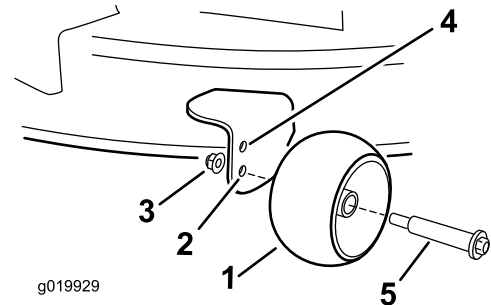

Figure 23
- Upper hole—use this position with the mower deck in the 63 mm (2-1/2 inch) and below the height-of-cut positions (Figure 23).
- Lower hole—use this position with the mower deck in the 76 mm (3 inch) and above the height-of-cut positions (Figure 23).